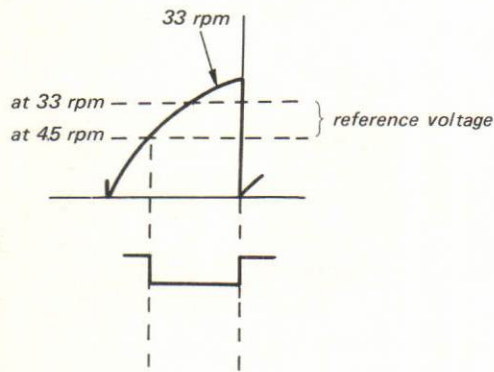

Fig. 1-6
3. Now, let turn the switch S2 to the speed 45 rpm when rotating at 33 rpm, the pulse width on the collector of Q3 becomes wide as illustrated in Fig. 1-6.